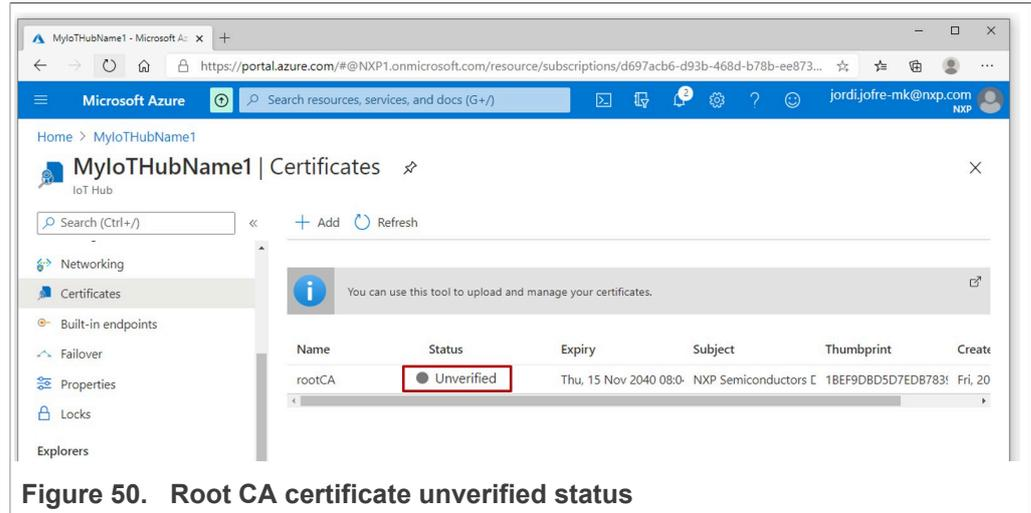

Figure 50. Root CA certificate unverified status
- 2. The certificate we have just uploaded will appear in the list as **Unverified** as shown in Figure 50.